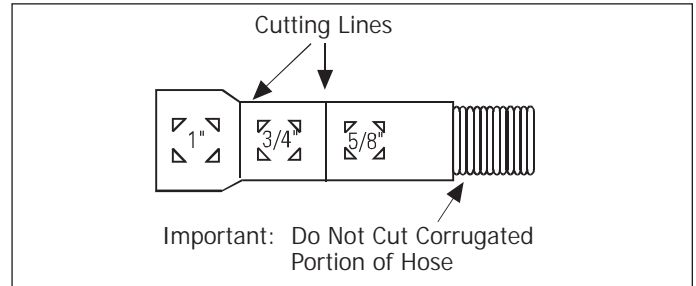

Figure 2-18.
1. The drain hose molded end will fit 5/8", 3/4" or 1" diameter connections on the air gap, waste tee or disposer. Cut on the marked line as required for the installation. (See Figure 2-18)